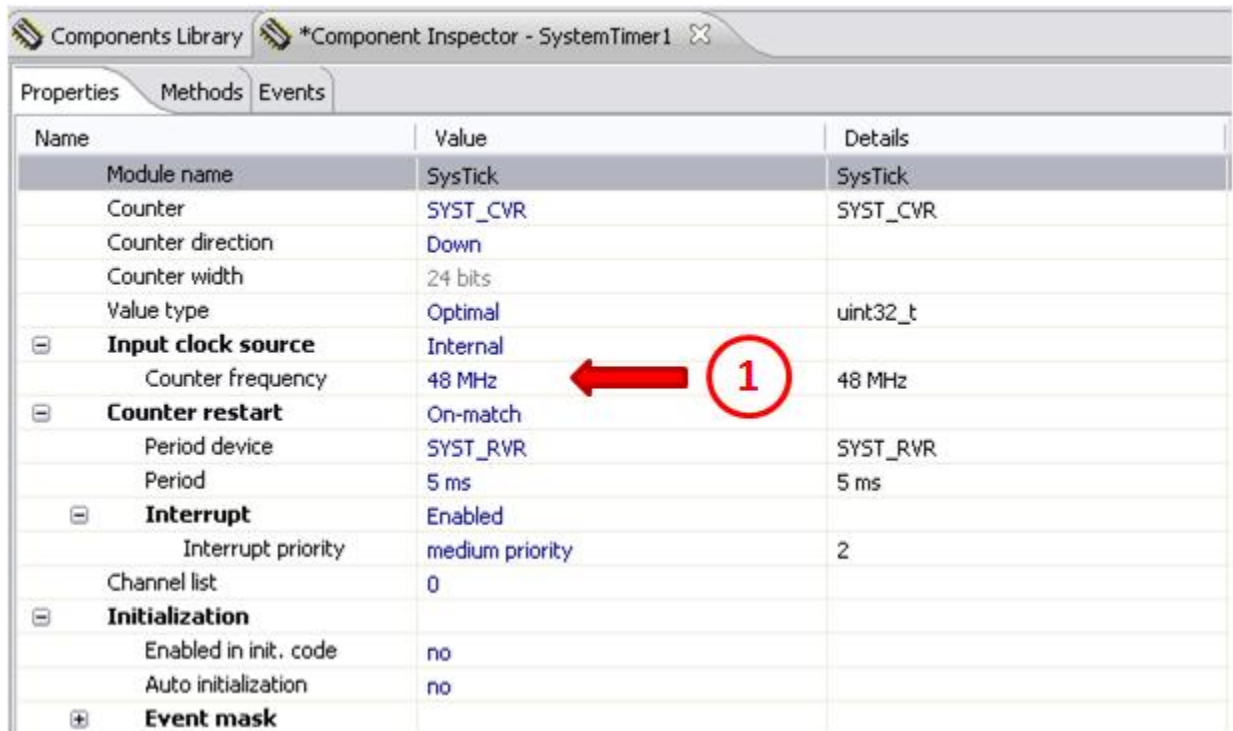

Figure 28. Configuring System Tick for MQXLite
8. The first MQXLite subcomponent is the SystemTimer1:TimerUnit_LDD. This is the heart of the system. The system tick is generated with the SystemTimer1:TimerUnit_LDD. Figure 27 shows that the SystemTimer1:TimerUnit_LDD subcomponent is marked with errors. This is because it is necessary to provide configure information for the clocks. This way the timer can configure the module correctly. Figure 28 shows the values to be updated in the Component Inspector tab when a click is given in the SystemTimer1:TimerUnit_LDD subcomponent.